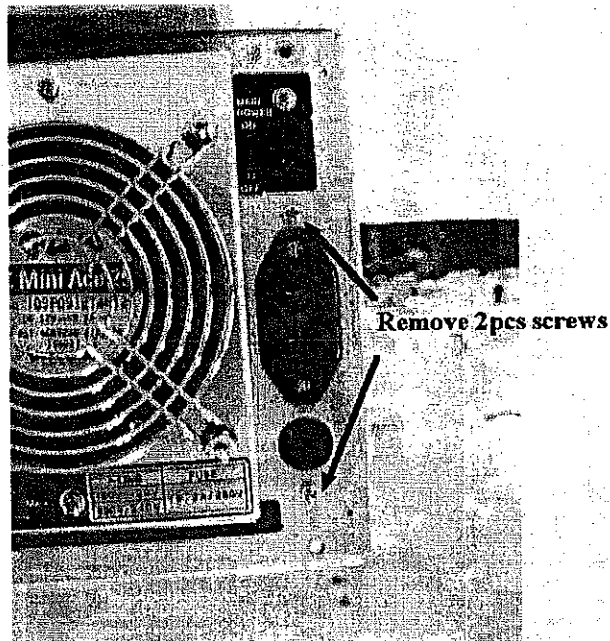

Figure 5-12 Location of Screws
2. Remove 2pcs screws on the rear panel, referring Figure 5-12.